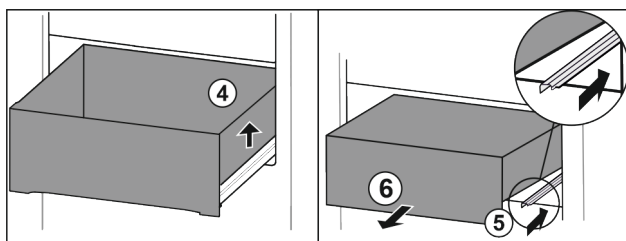

Fig. 86
- Lift drawer on the right. Fig. 86 (4)
- Slide in right rail. Fig. 86 (5)
- Remove drawer to the front. Fig. 86 (6)